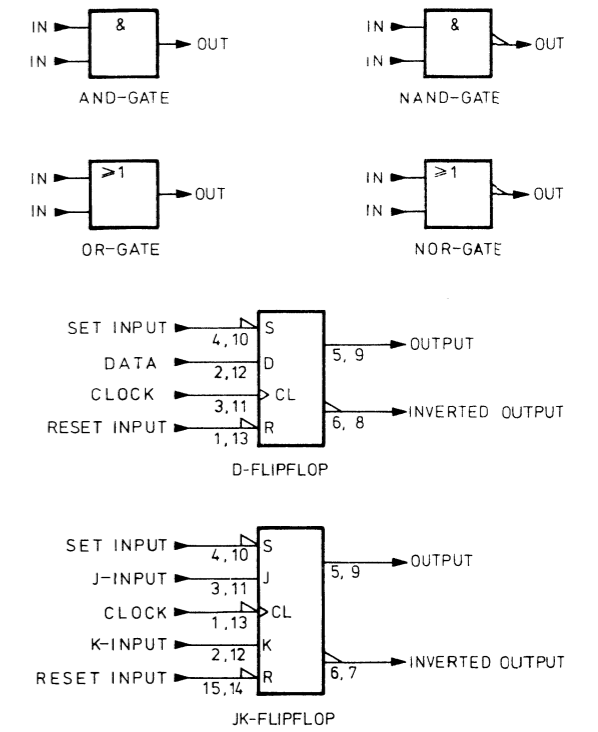

Fig. 2.13 Basic digital circuits
2.6.2. Basic Digital Circuits (see Fig. 2.13)